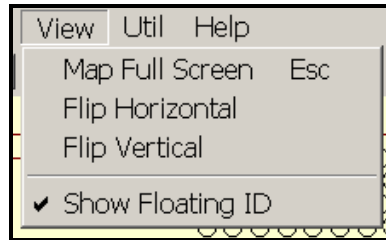
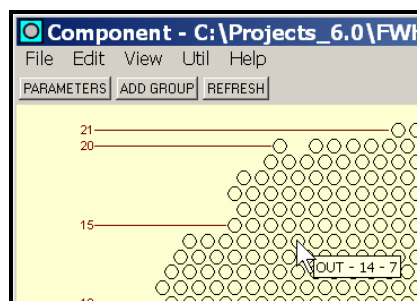

Figure 13. View Menu
Figure 15. Floating Tube ID Box
As shown in Figure 13, the **View** menu contains four (4) choices. Each item is discussed below.
- o **View | Show Floating ID** displays the tube identification in a small 'floating box' as shown in Figure 15, which dynamically updates as the cursor is moved over the tubesheet map. When active, a small checkmark appears next to the selection as shown in Figure 13. Regardless of the state of this function, the tube identification is always shown in the status bar at the bottom of the main MakeComp window by clicking on any tube.